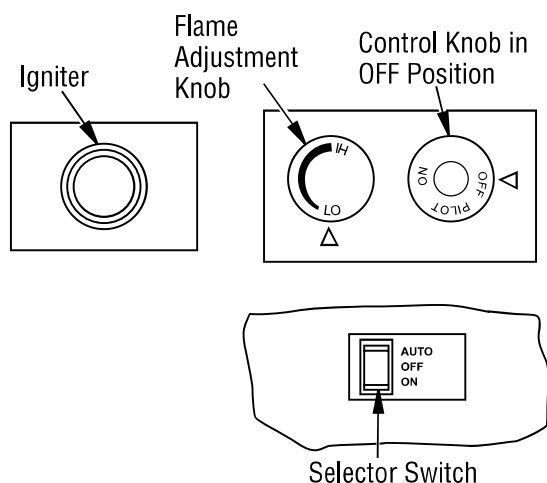

Figure 35 - Control Knob, Igniter Button and AUTO/OFF/ON Switch
4. Press in and turn control knob clockwise  to the OFF position (see **Figure 35, Page 24**).
5. Wait five (5) minutes to clear out any gas. Then smell for gas, including near the floor. If you smell gas, STOP! Follow "B" in the safety information, column 1. If you don't smell gas, go to the next step.
6. Press in and turn control knob counterclockwise  to the PILOT position. Press in control knob for five (5) seconds (see **Figure 35**).